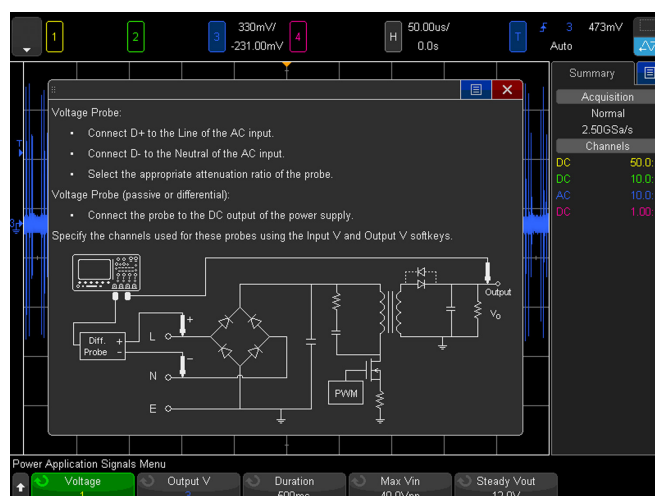

Figure 29. Turn-on/turn-off connections diagram in the Signals menu.
5. Connect the N2790A differential active probe between the scope's channel-1 input to Line (red lead) and Neutral (black lead) as illustrated in the on-screen connections diagram shown in Figure 29. If using Keysight's power training kit, connect to TP2 (red lead) and TP1 (black lead).